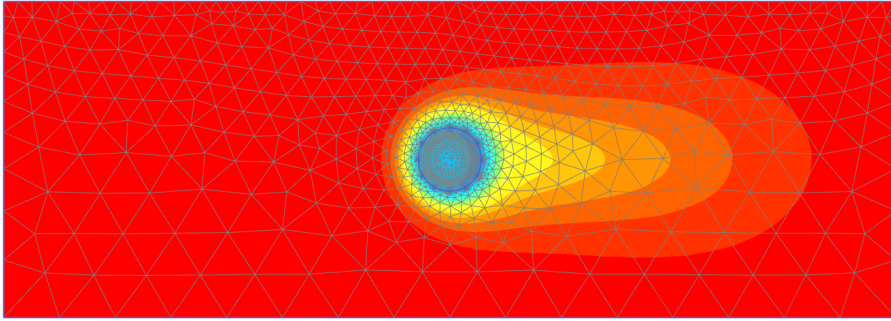

Figure 16.6 Temperature distribution for transient phase
- Figure 16.6 shows the spatial distribution of the temperature for transient calculation in the final step.